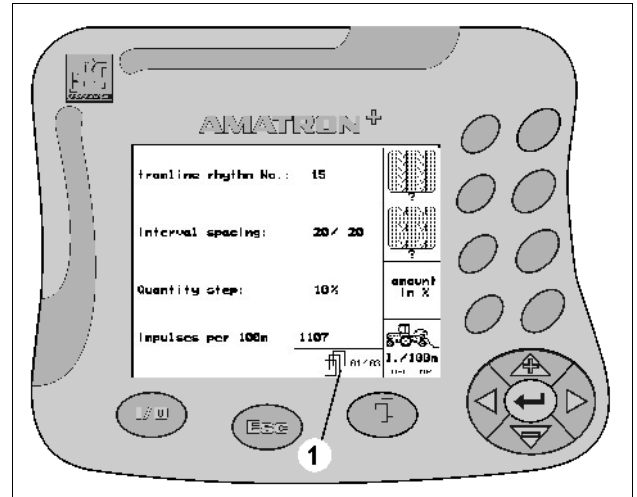

Fig. 10
- Page on to other menu pages (only possible when the page symbol (Fig. 10/1) appears in the display)